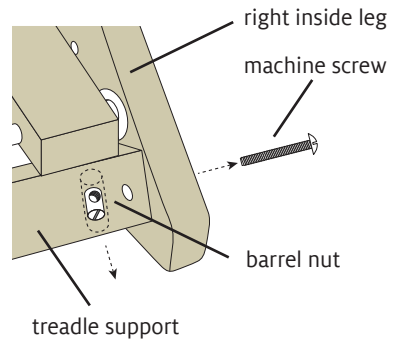

FIGURE 1: REMOVE TREADLE ASSEMBLY
**1. All looms:** Detach all tie-up cords. Remove the arrow peg under the brake release pedal and remove the brake cord from the pedal. Using a #2 Phillips screwdriver, unscrew the two machine screws holding the treadle support to the inside legs (Figure 1). Let the barrel nuts fall out of their holes. Set aside the screws and barrel nuts for Step 6. Spread apart the inside legs and remove the treadle assembly.